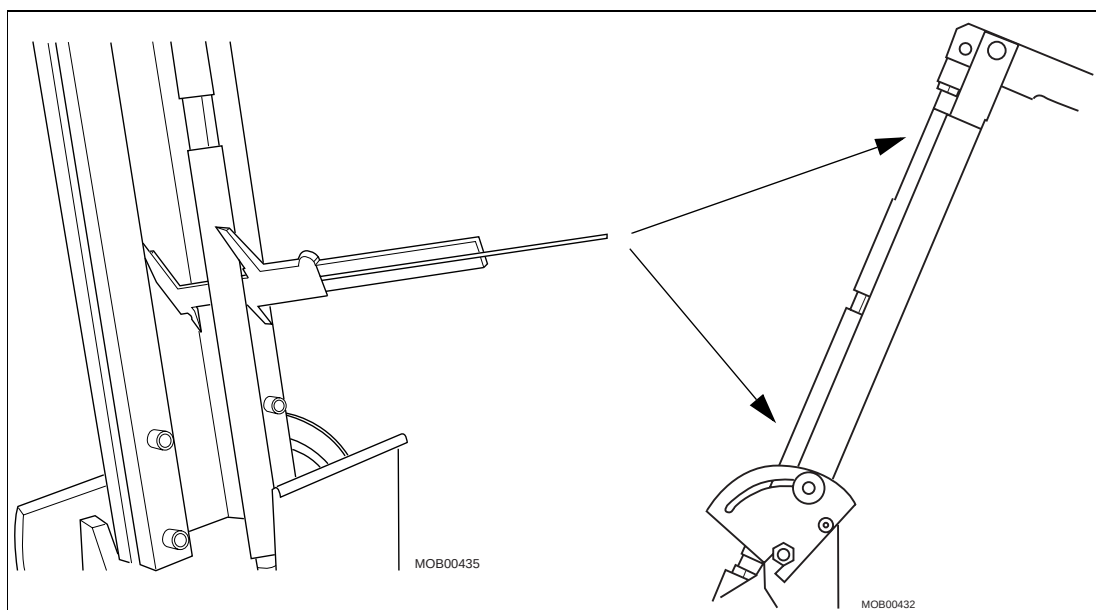

Fig. 1
- Remove all arm and joint covers so that the adjustment rod is visible (Fig. 1).
- The adjustment rod must always be parallel with the arm. This can be checked by measuring at two points as far away from each other as possible but with the same diameter of the pull rod (Fig. 1). The parallelism must not deviate by more than 0.6 mm. The measurements must be performed with the arm in the uppermost and lowermost positions. If not parallel, loosen the locking nuts and adjust by turning the pull rod.